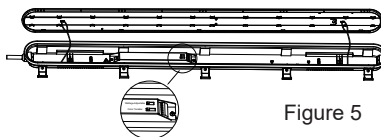

Figure 5
- Step1. Open the product shade and adjust the required color temperature or power according to your needs (Figure 5)